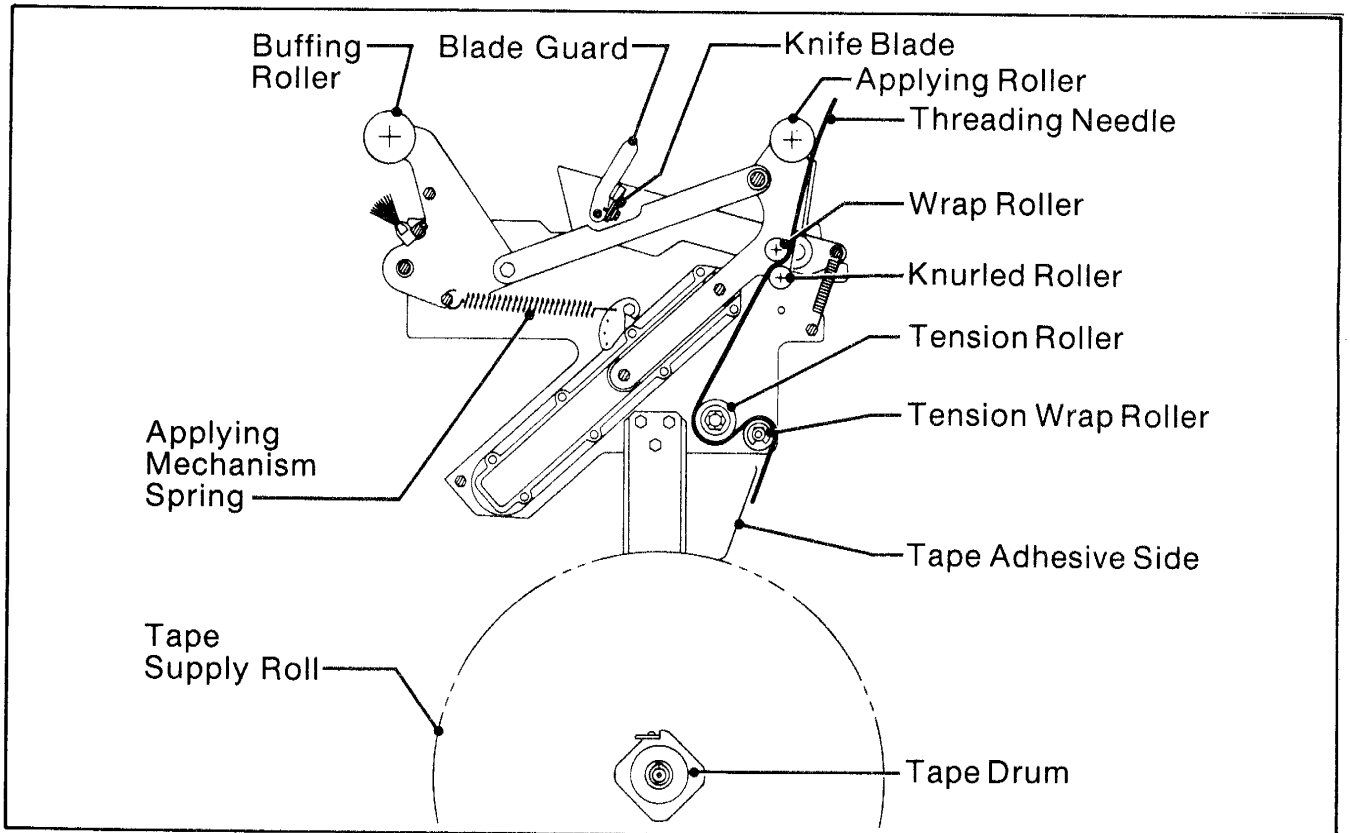
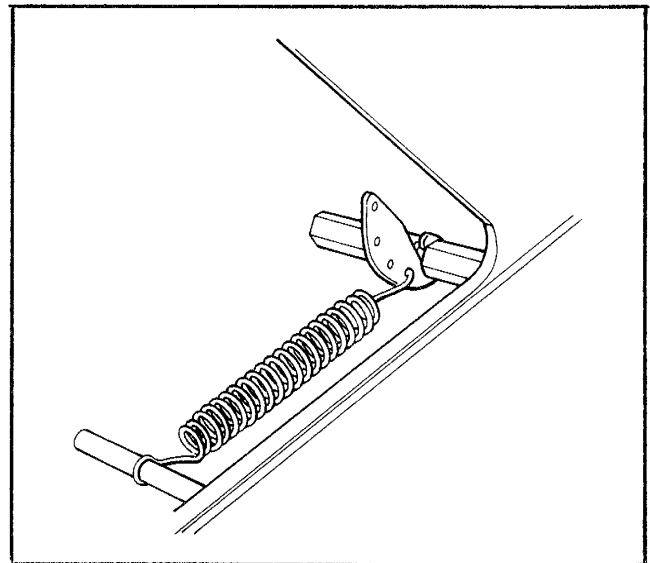

Figure 3A - Tape Threading Diagram - Bottom Taping Head - Left Side View
Figure 10
1. BOTH THE TOP AND BOTTOM TAPING HEADS UTILIZE EXTREMELY SHARP KNIFE BLADES ON THE ORANGE CUTTER LEVER ASSEMBLY AND WHICH ARE LOCATED UNDER THE BLADE GUARD WHICH HAS THE "WARNING - SHARP KNIFE" LABEL. BEFORE WORKING WITH THE TAPING HEADS OR ATTEMPTING TO LOAD THE TAPE, REFER TO FIGURE 3A AND IDENTIFY THE BLADE LOCATION. KEEP HANDS OUT OF THESE AREAS EXCEPT AS NECESSARY TO SERVICE THE TAPING HEADS.
Refer to Figure 3A
The applying mechanism spring, shown in Figure 3A, controls applying and buffing roller pressure on the box and returns the mechanism to the reset position. The spring pressure is pre-set, as shown in Figure 10, for normal operation but is adjustable.